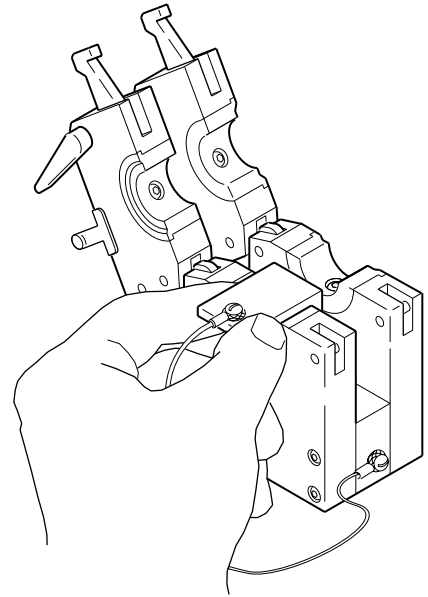

Figure 14 Place the Centering Gage
1. Place the centering gage in one side of the tube fixture block. The centering gage must span the width of the collet. Verify that the centering gage is positioned correctly for either the thick or thin side plate. See Figure 14.